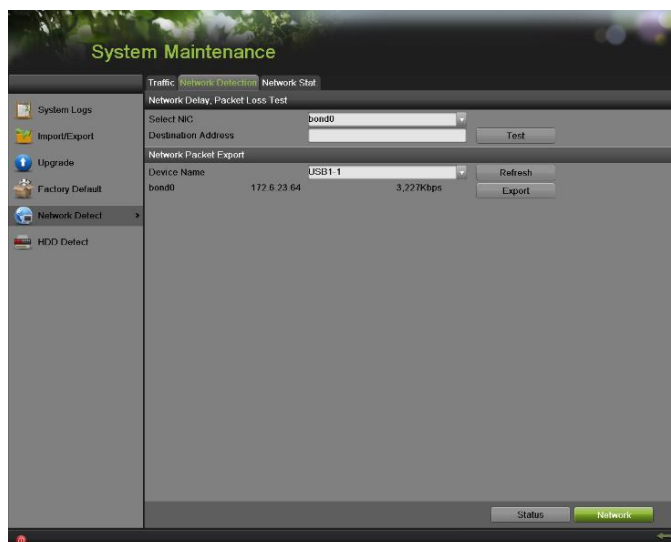

Figure 220 Network Detection
2. Select the Network Detection tab to enter the Network Detection menu, as shown in **Figure 220**.